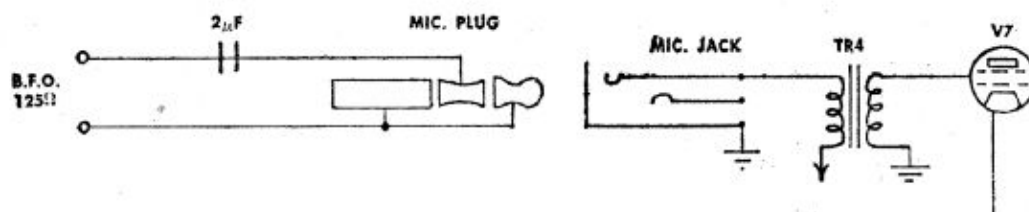

Fig. 5.1
- (b) Remove the microphone from the jack on the front panel and connect the audio oscillator via a shorting plug as in figure 5.1 below, which is so arranged that when inserted in microphone jack it short-circuits the press-to-talk line to ground, as well as injects the audio frequency voltage into the microphone circuit.